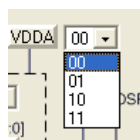

Figure 42
- (1) Click the network by mouse, INL can select the specified network.
- (2) Click the network switch by mouse, INL can select the specified network.
- (3) Click the mouse, a menu as Figure 42 will appear and users can select the switch network.